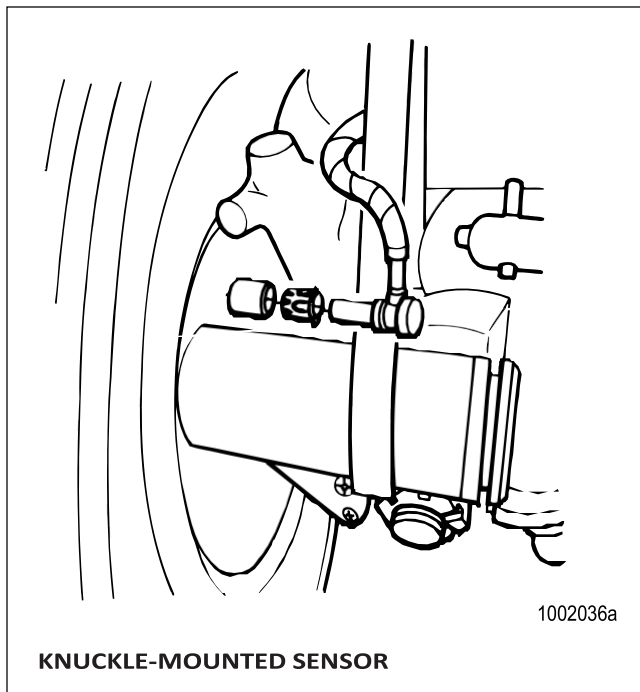

Figure 4.2
5. Remove the sensor from the sensor holder. Use a twisting motion if necessary. Do not pull on the cable. Figure 4.2.